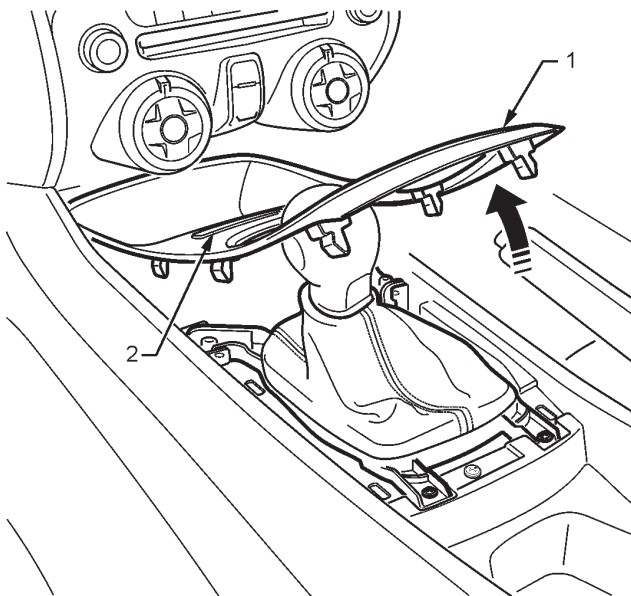

FIGURE 2
3. Disconnect the traction control switch and 12V power socket (2) from the vehicle body harness. Refer to figure 2.